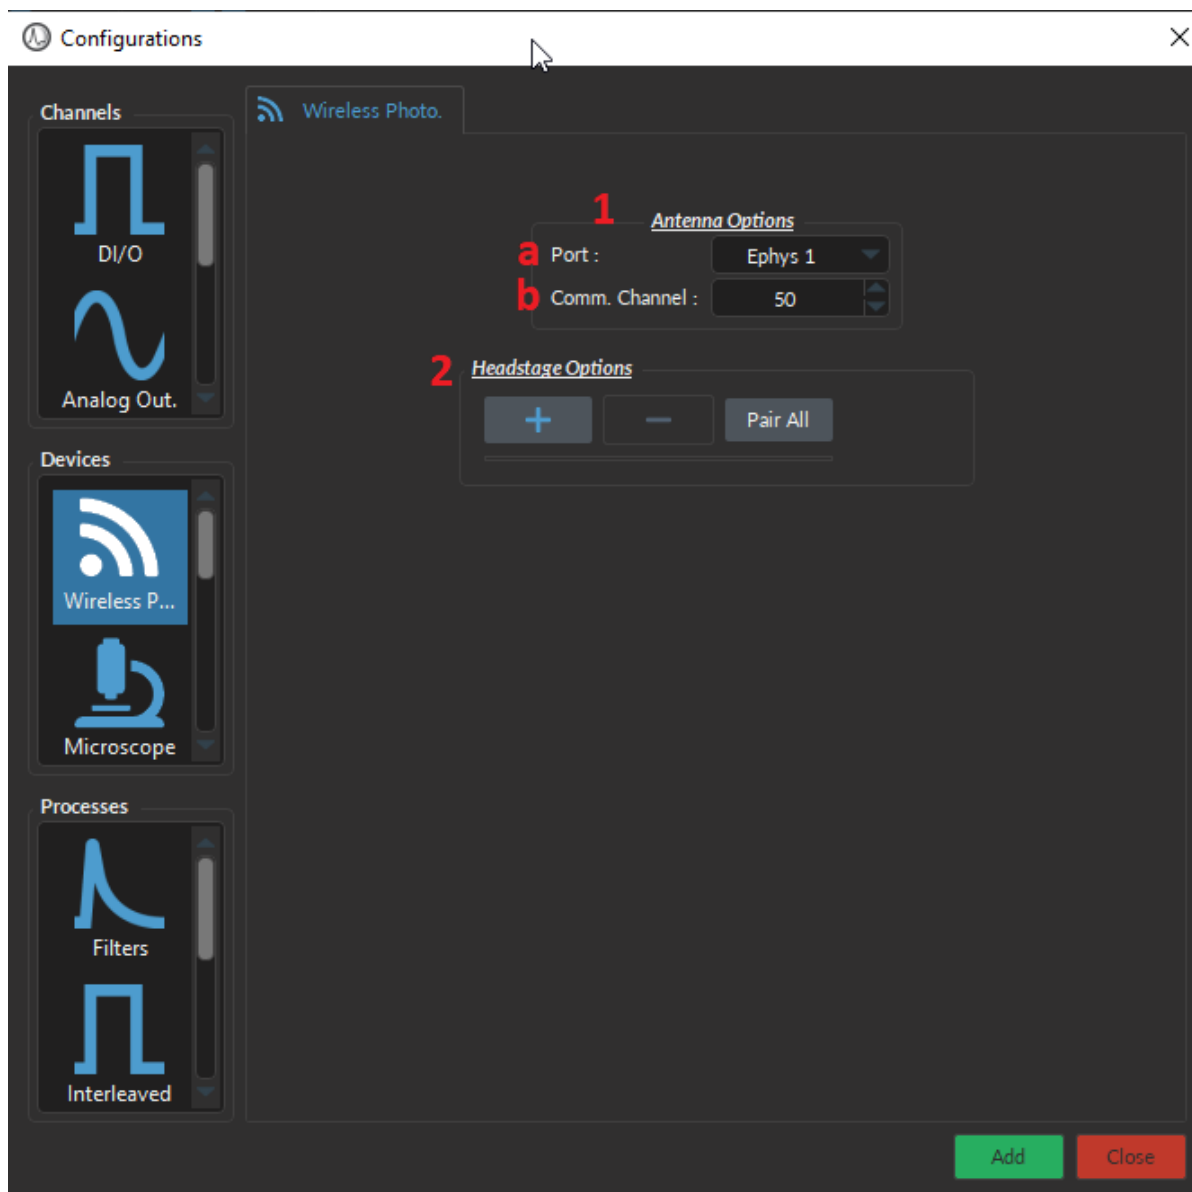

Figure 11.64: Channel(s) configuration window, Wireless Photometry
1. The **Antenna Options** (Fig. 11.64, 1) including:
- a) The **Port** (Fig. 11.64, a) automatically displays the Ephys port on the NC500 which is connected to the Wireless base-station. Note that the NC500 console can support up to 2 base-stations each pairing up to 4 headstages maximum.
- b) The **Comm. Channel** (Fig. 11.64, b) corresponds to the channel on the 2.45 GHz radio band, offering 9 selectable options ranging from 10 to 100. Every time the base-station is set up for data acquisition the user can select freely any of the channels. However note that in each environment some of those channels might be already occupied by nearby devices like cell phones, and laptops; resulting in weaker
2. The **Headstage Options** (Fig. 11.64, 2) allows pairing and setting up each headstage separately. Once the plus button is clicked, additional parameters will appear with the following options: